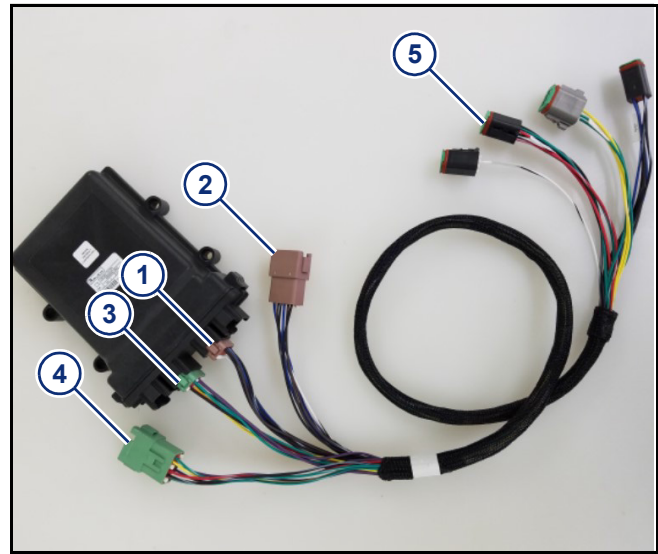

Figure 3
2. **[Figure 3]** - On the Case IH Product Controller II, locate and unplug the brown connector (1).
3. Locate and unplug the green connector (2).
4. **[Figure 3]** - Insert the mating connector from the harness into the brown receptacle (1) of the Product Controller II node.
5. Insert the factory connection into the mating plug (2) on the harness.
6. Insert the mating connector from the harness into the green receptacle (3) of the product Controller II node.
7. Insert the factory connection into the mating green plug (4) on the harness.
8. Route the remaining plugs (5) on the harness to the Gateway hub and plug into the respective connectors 1-6, 7-12, servo, and flow meter.